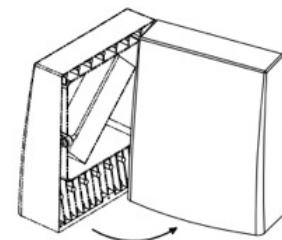

FIG. 3
3. Tighten enclosure screws to seal fixture. (FIG.3)